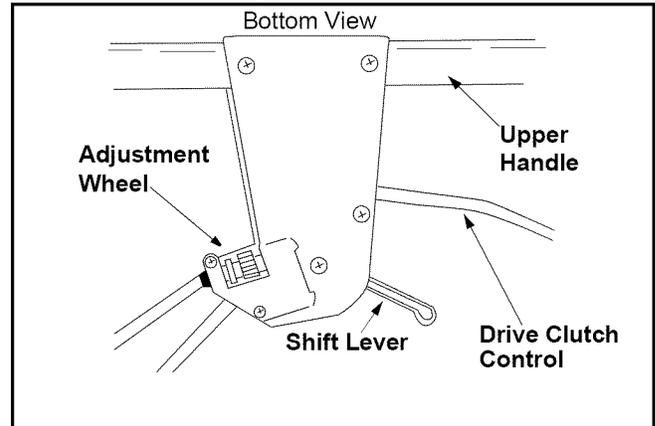

Figure 14
- To resolve the above problems, rotate the adjustment wheel with your fingers clockwise to tighten the cable and counter-clockwise to loosen the cable. See Figure 14.
- Start engine and place shift lever in the sixth speed position. Refer to Figure 14.